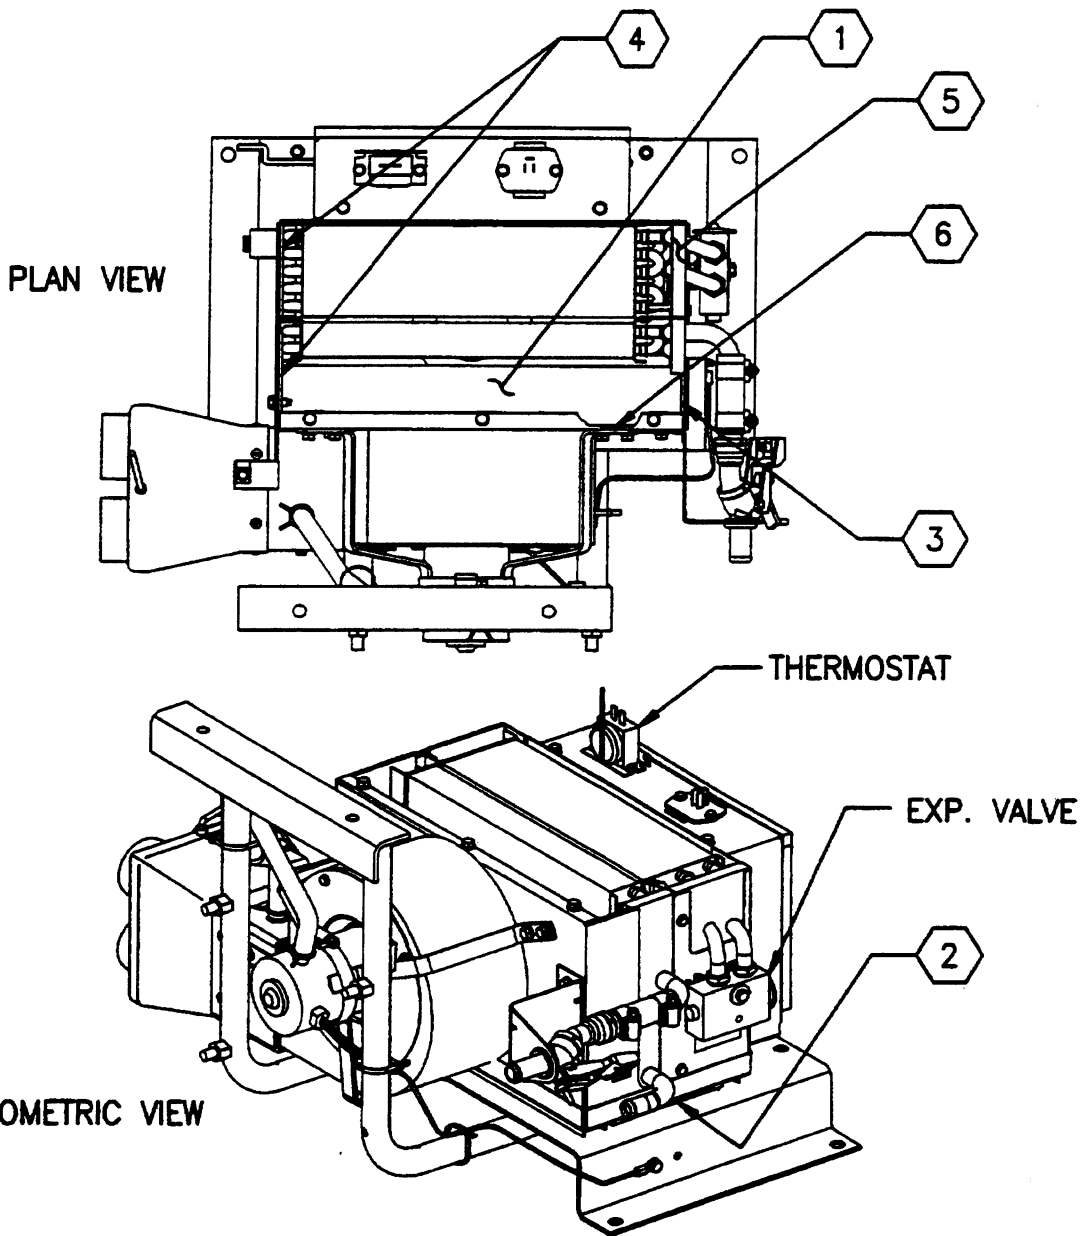

FIGURE 2
1. Remove (4) bolts securing unit base to floor of cab.
2. Remove (4) nuts and (2) screws on underside of stand securing unit and motor brace to base.
3. Lift unit and attach drain pan gasket to bottom of unit between stiffeners. See item #2 on Figure 2.
8. Remove (5) bolts securing cover to unit and lift off cover.
10. Attach evaporator gasket over inlet and outlet fittings and onto evaporator manifolds. See item #5 Figure 2.
11. Assemble expansion valve with (2) "O-rings" to evaporator.
12. Apply gaskets to housing as shown in Figure 2.
14. Slide evaporator assembly into housing securing header flanges in top and bottom core retainers as shown in Figure 2.
18. Assemble thermostat to top of recirc. air frame with (2) M5 screws and gently insert exposed probe through grommet in cover approx. 6" (150mm) into evaporator core.